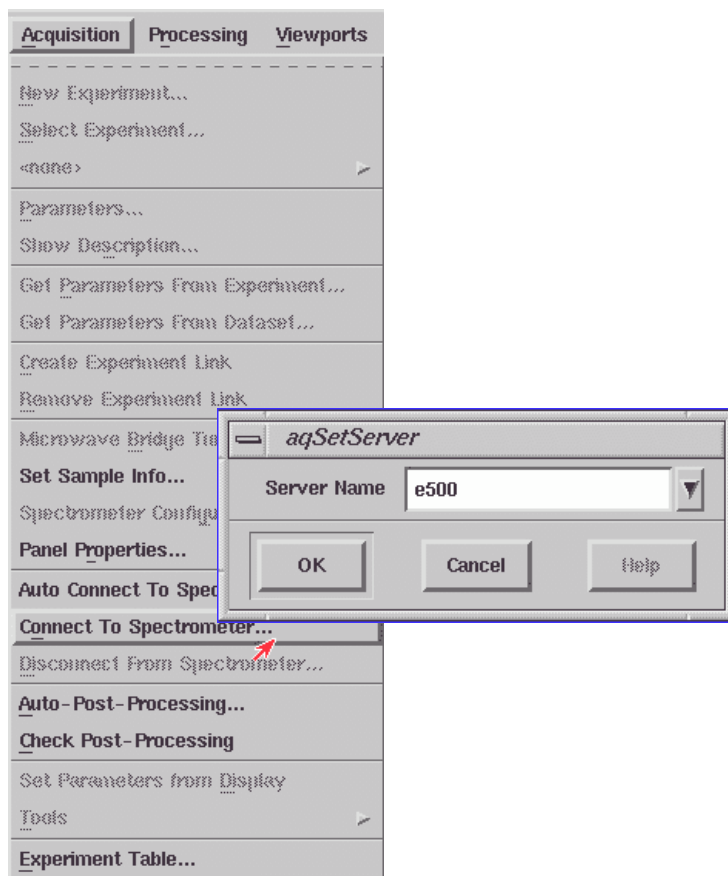

Figure 3-6 Connecting to the spectrometer.
7. **Connect to the spectrometer.** To control the spectrometer from the Xepr program you need to connect the workstation to the spectrometer. Click the **Acquisition** menu bar and then **Connect to Spectrometer**. A dialog box will appear with the **Server Name**: click **OK**. (See Figure 3-6.)